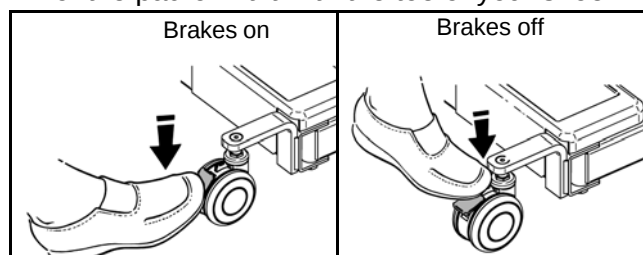

Fig. 8
- To apply the brakes, step on the back part of the pad (see Fig. 8).